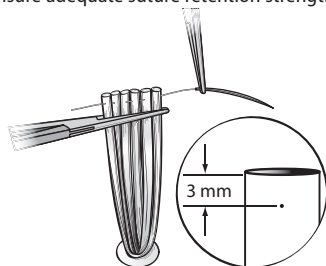

FIGURE 1
- To facilitate introduction and deployment of the device in the fistula tract, it is recommended that a suture be used to gather the tubes and pull the device through the fistula tract. To do so, run a suture through the distal ends of the tubes. A bite depth of approximately 3 mm is recommended to ensure adequate suture retention strength (Figure 1).